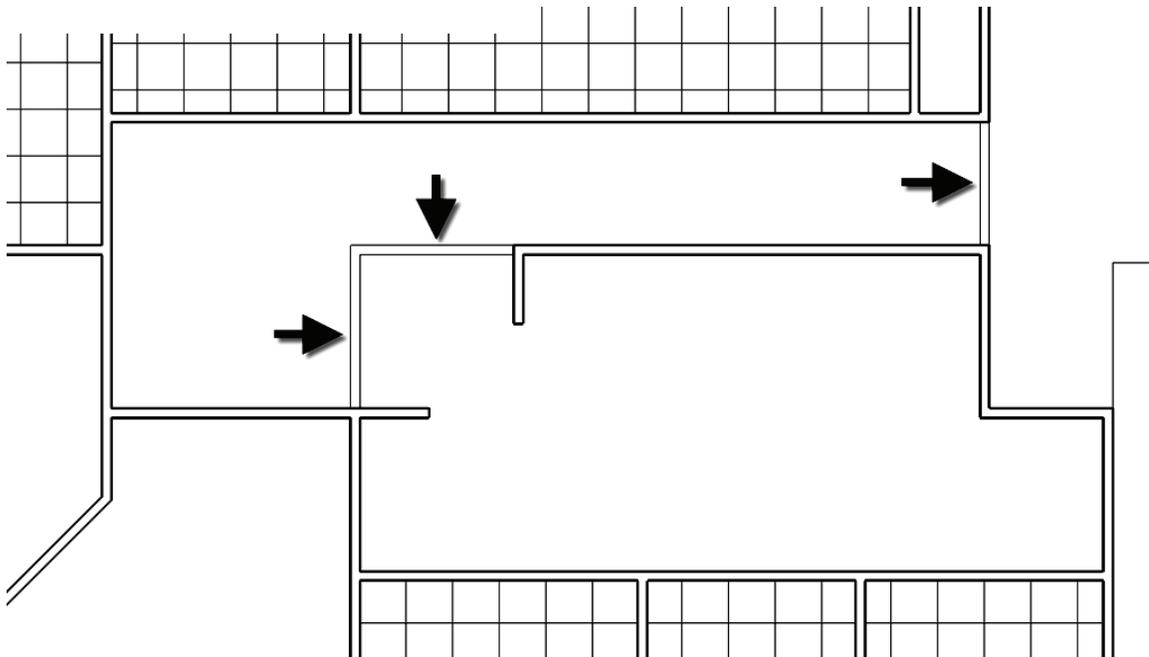

FIGURE 7-4.12 Bulkhead modeled
28. In the *Properties Palette*, set and the Base Offset to **7’-10”**. This will put the bottom of the wall to 7’-10” above the current floor level, Level 1 in this case (Figure 7-4.12).
30. **Draw the bulkhead**; make sure you snap to the adjacent walls (Figure 7-4.12).